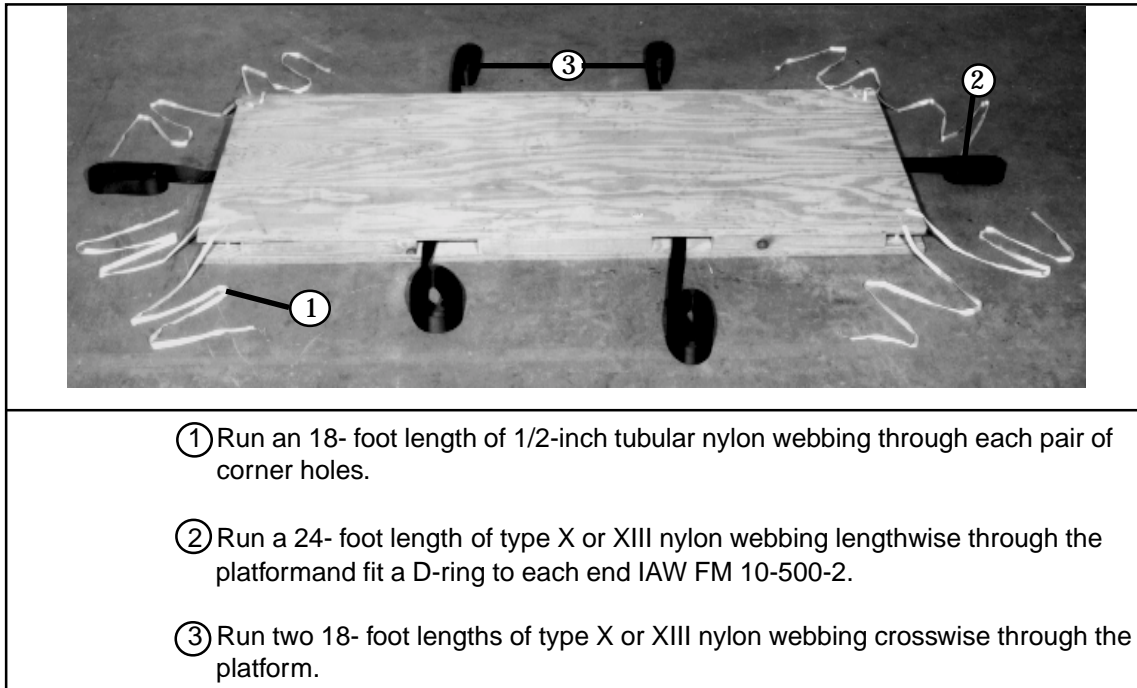

Figure 2-2. Platform Prepared
- Prepare the platform as shown in Figure 2-2.